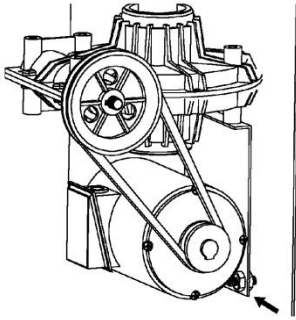

Fig. 16
- Check the tension of the drive belt every 6 months (Abb. 16).